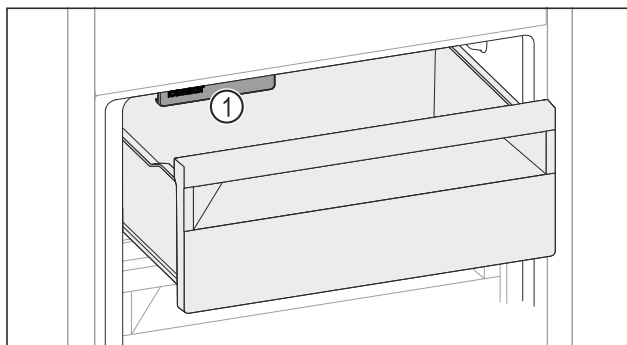

Fig. 115
- ▶ Observera IceMaker Fig. 115 (1).